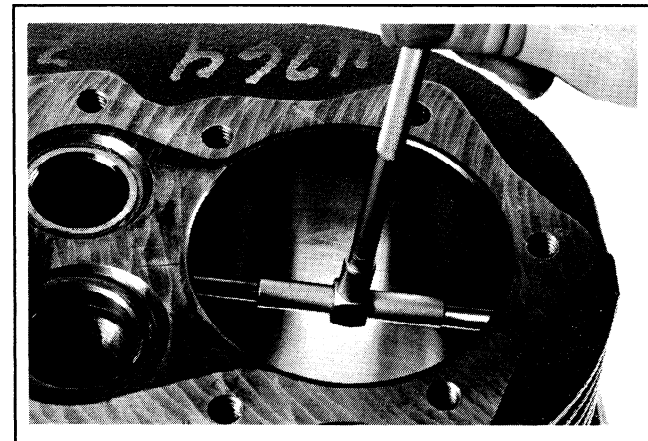

Figure 11-3. Measuring Cylinder Bore.
4. After resizing, check the bore for roundness, taper, and size. Use an inside micrometer, telescoping gauge, or bore gauge to take measurements. Refer to Figure 11-3. The measurements should be taken at three locations in the cylinder - at the top, middle, and bottom. Two measurements should be taken (perpendicular to each other) at each of the three locations.